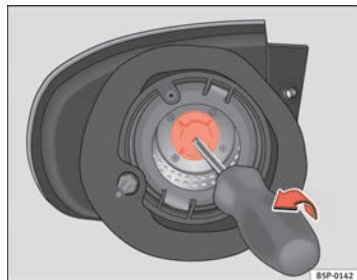

Fig. 194 Turn signal light.
- Pull out the turn signal bulb holder using a screw driver in the direction of the arrow ⇒ fig. 194.